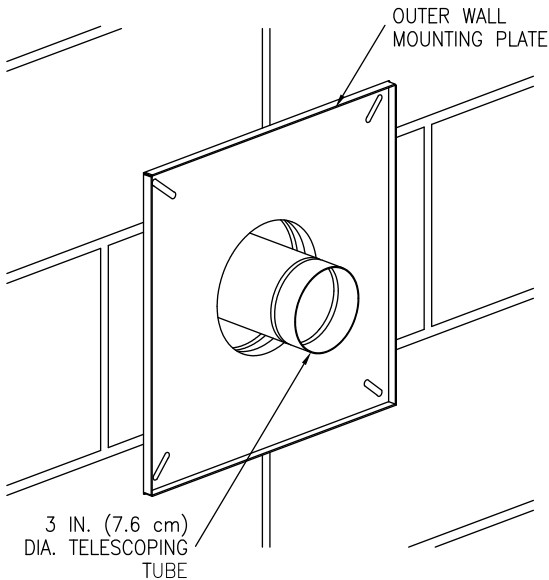

Figure 9
9. From outside the building, slide the five (5) inch (12.7 cm) diameter telescopic tube through the opening in the wall until the outer wall mount plate is flush with the wall (See Figure 9).